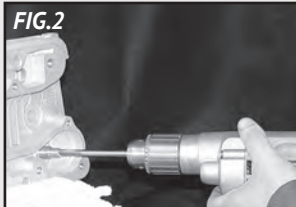

FIG.2
- Ream at 100-200 RPM with a slow feed rate. Let the reamer do the work and do not force the reamer. (Fig.2)